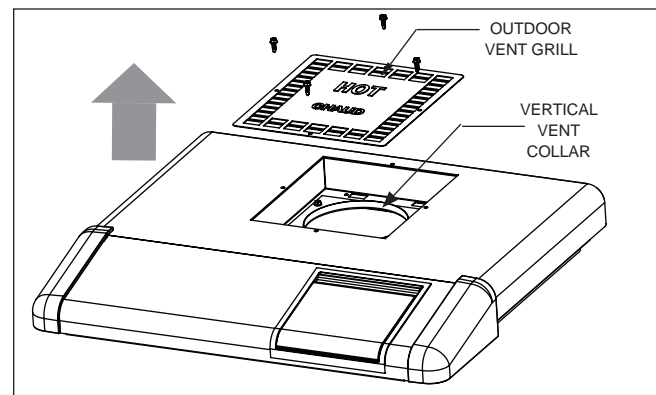

Figure 5. Removal of Outdoor Exhaust Grill
1. Remove the vent exhaust grill by removing the four screws which retain it. The grill and the screws may be discarded (See Figure 5).